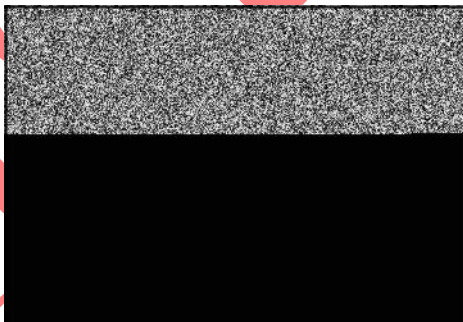

Figure 17
1. Install new Welch plug (**A**, Figure 17) with a pin punch (**B**) of slightly smaller diameter than the plug. Press against the plug until it is flat in the carburetor opening. Do not cave in the plug. Seal the edge of the plug with a non-hardening sealant.